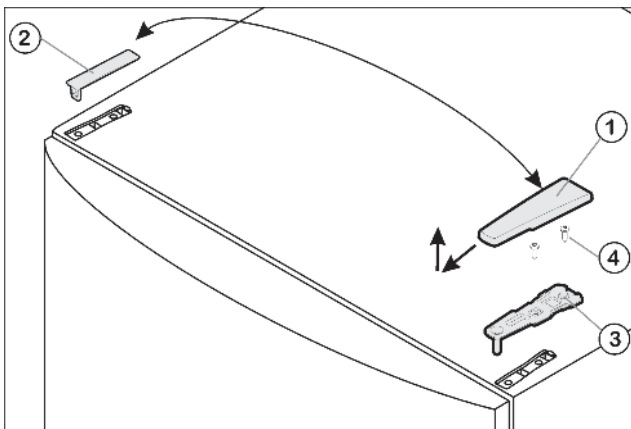

Fig. 5
- ▶ Pull the cover Fig. 5 (1) forward and up.
- ▶ Lift the cover Fig. 5 (2) off.
- ▶ Unscrew the upper bearing bracket Fig. 5 (3) (2 Torx® 25 screws) Fig. 5 (4) and pull it upward to remove.
- ▶ Insert the upper bearing bracket *Fig. 5 (3)* on the new hinge side into the door.
- ▶ Tighten the upper bearing bracket **(to 4 Nm)** (2 x Torx® 25 screws) *Fig. 5 (4)*. Make preliminary holes (optional) or use a cordless screwdriver.
- ▶ From the outside, position cover *Fig. 5 (1)* and cover *Fig. 5 (2)* on the opposite side and snap into place.